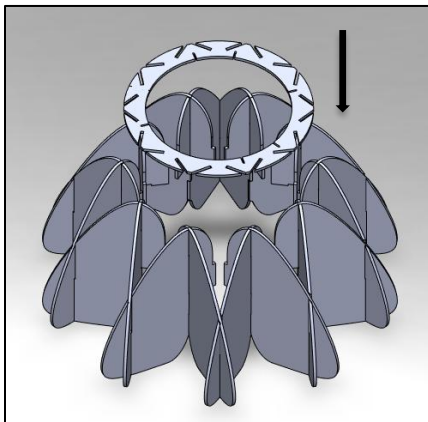

FIG. 12 – SUPPORT RING/ACOUSTIC PANEL CONNECTION
2. Once all the panels are connected, grab the support ring and place it on top of the acoustic panels. Then slide the ring down into position, adjusting everything as needed to ensure a proper fit (as shown below in FIG. 12).